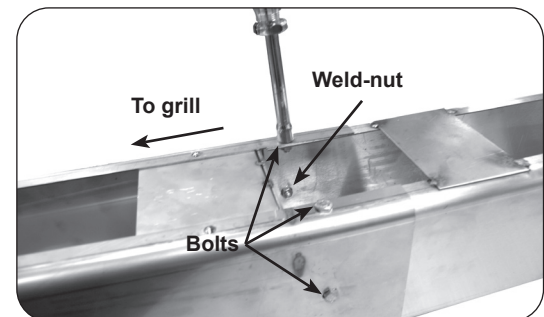

Fig. 30-2 Fasten extension to post
2. From outside the joined post and extension, insert one of the 1/4" X 20-5/8" bolts (supplied) into each of the five (5) bolt holes and tighten each using a 7/16" socket driver or wrench (see Fig. 30-2).